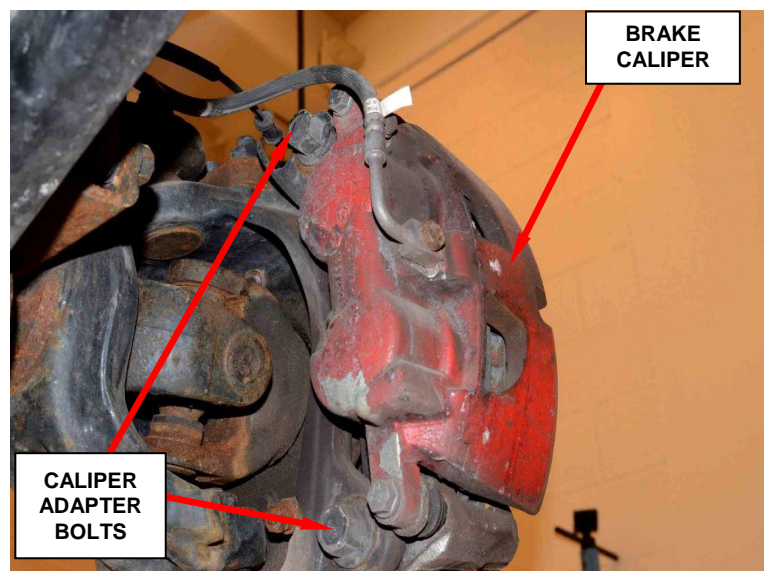

Figure 2 - Caliper
3. Remove the caliper adapter bolts on both sides and save (Figure 2).